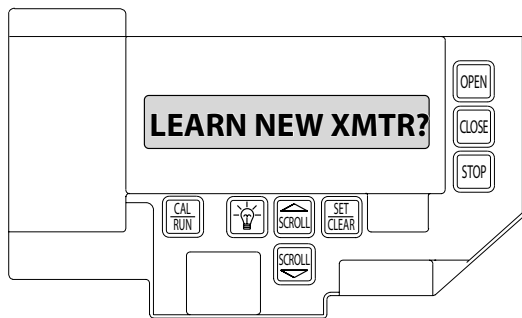

Fig. 1
2. Press SCROLL (up or down) until display reads "LEARN NEW XMTR?" Fig.1
2. List as shown in Fig.1